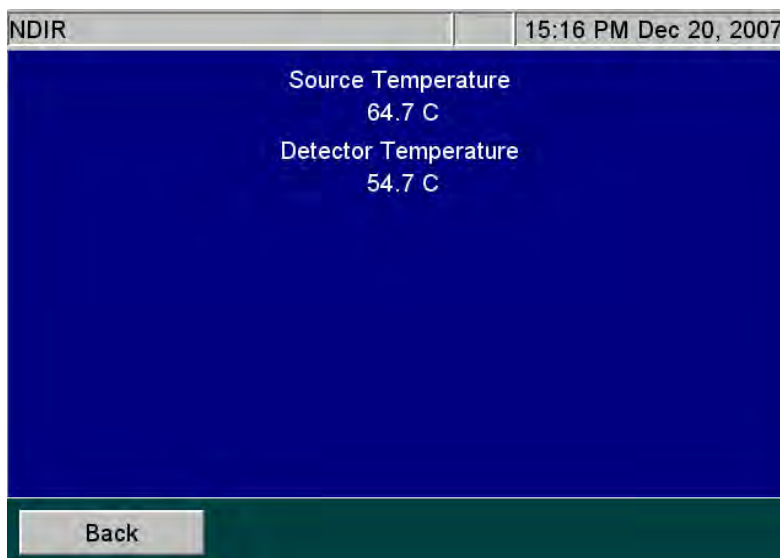

Figure 114: The Temperatures Display on the NDIR Screen
1. On the *Diagnostics* screen, press the **NDIR** button to display the *NDIR* screen with the current source and detector temperatures (Figure 114).